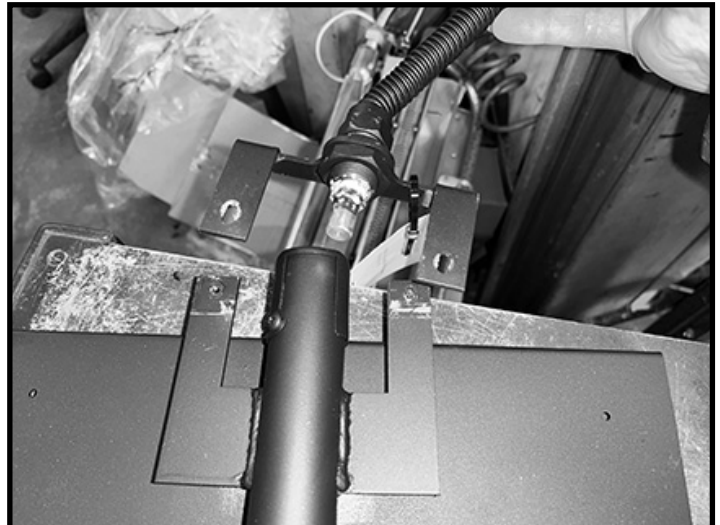

Figure 16: Orifice exposed.
3. Remove the manifold assembly from the burner (Figure 16).